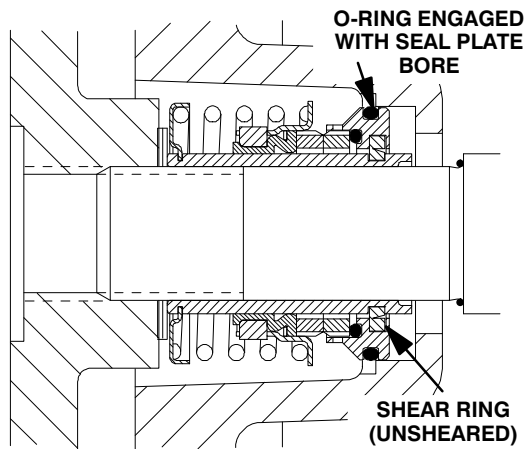

Figure 6. Seal Partially Installed
Clean and inspect the impeller as described in **Impeller Installation and Adjustment.** Install the full set of impeller shims (27) provided with the seal, and screw the impeller onto the shaft until it is seated against the seal (see Figure 6).